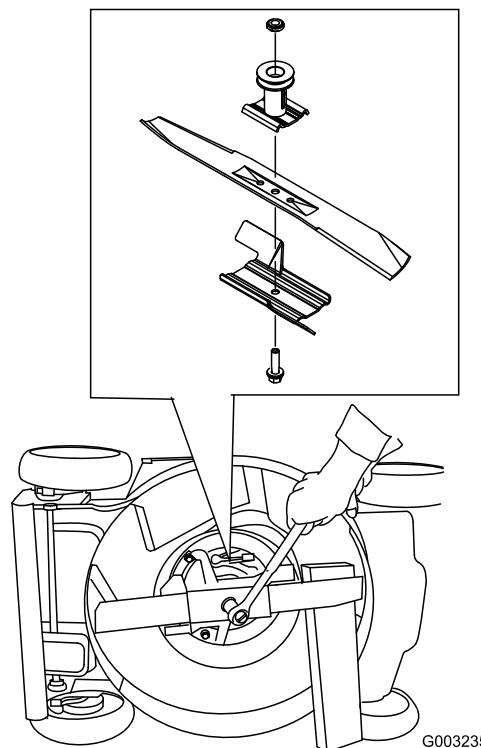

Figure 34
3. Use a block of wood to hold the blade steady (Figure 34).